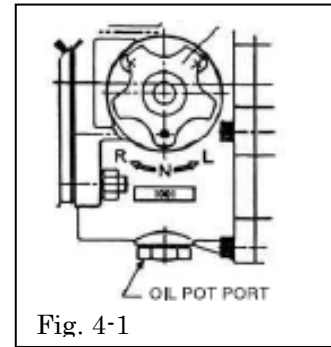

Fig. 4-1
2. Set the gear change lever to neutral. (Fig. 4-1)
When the gear change lever (Fig. 4-1) is set to "R", it rotates clockwise.